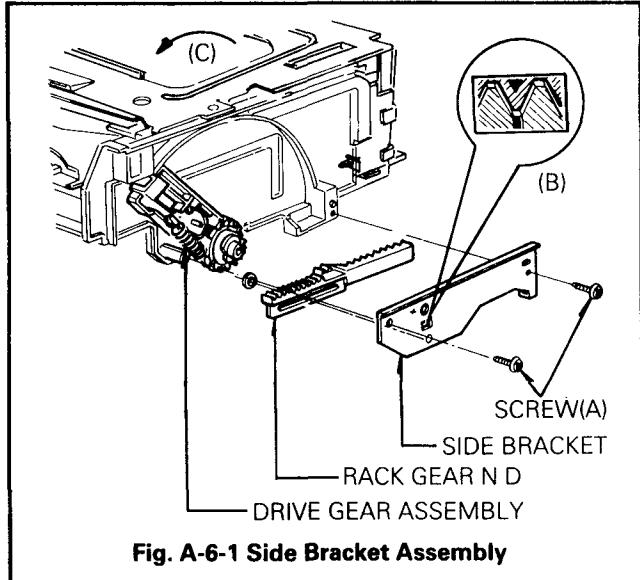

Fig. A-6-1 Side Bracket Assembly
- ① Seat projections(E) of Cassette Guide in holes of Bracket Assembly(L),(R) and then engage the Hook(A)
- ② After finishing previous step, fix the Cassette Guide to the Bracket Assembly(L),(R) by pushing two hooks(B) inward
6. Bracket Assembly Side (Fig. A-6-1)